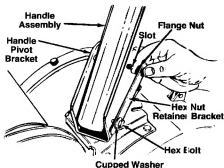

FIGURE 2.
2. Place handle assembly in position in the handle pivot bracket. Line up the holes in handle assembly with the holes (and slots) in the pivot bracket. See figure 2.
3. Insert hex bolt (with washer and hex nut retainer attached) through the bottom holes on the handle pivot bracket and handle assembly. Head of the hex bolt should be to the left hand side of the unit, as shown in figure 2.
4. Place flange nut between hex nut retainer bracket and handle pivot bracket. See figure 2.